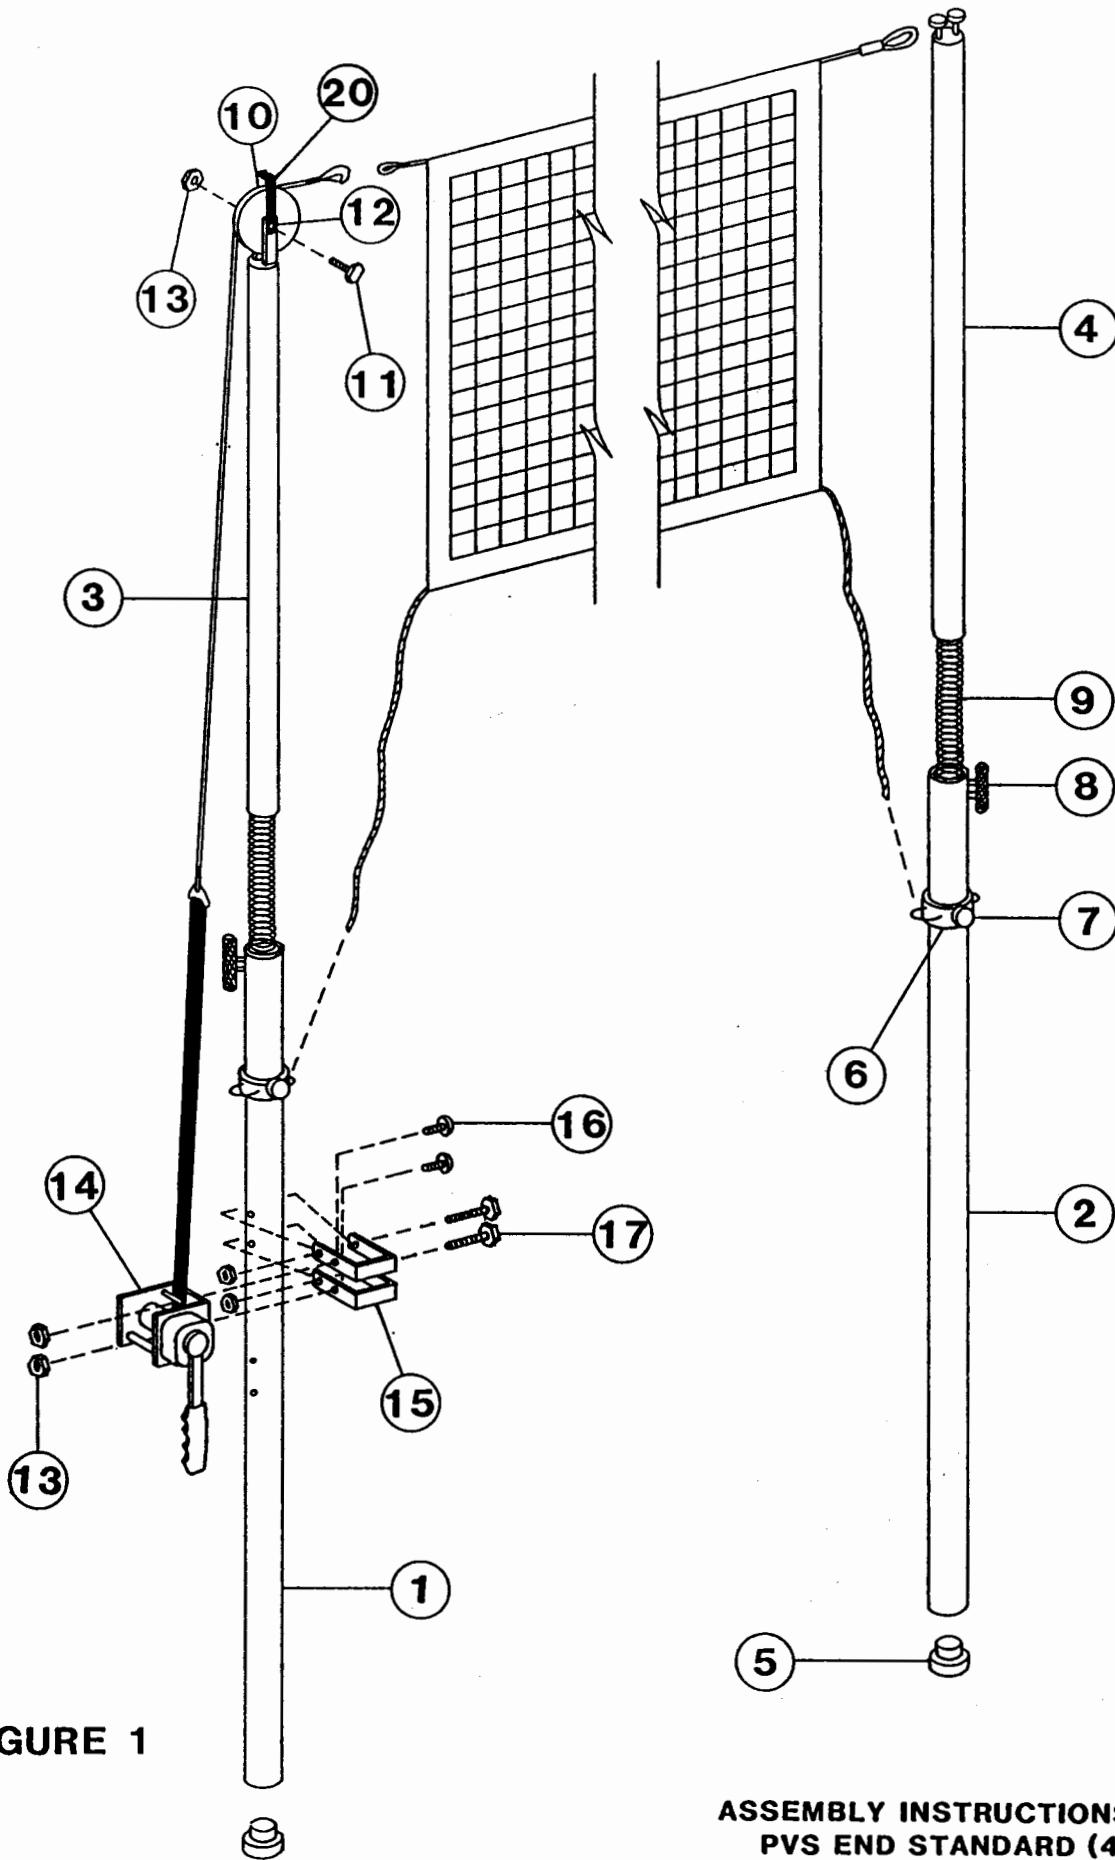

FIGURE 1
2. This instruction sheet serves for both the PVS End Standard (408136) and the PVS Standard System (408135) See Figure 1.
5. Using the 3/8"x1-1/2" HH bolt (no.11), the Pulley Bushing (no.12) and one of the 3/8" Stover Nuts (no.13), attach the End Standard Pulley (no.10) to the End Standard Piston (no.3) as shown in Figure 1.
7. To attach the net, hook one of the cable loops on the net to the top of the center piston as shown in Figure 1. Hook the other end to the Snap Hook provided at the end of the cable on the Reel Assembly.